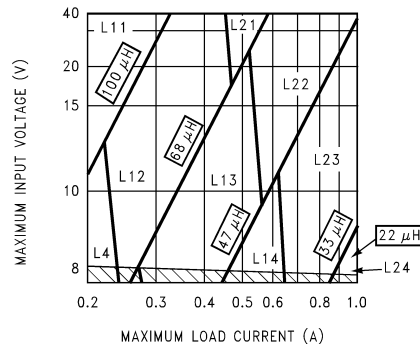
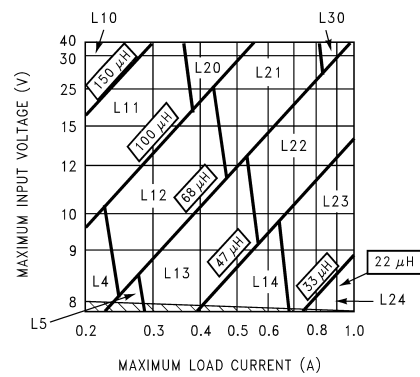
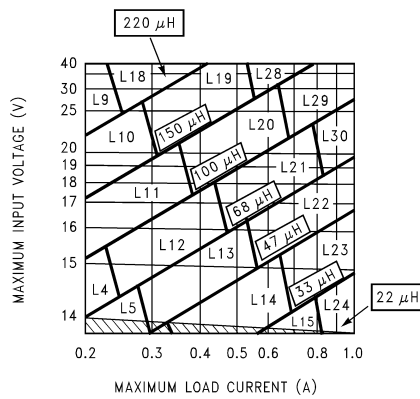

Figure 9. LM2675-3.3EP
Figure 10. LM2675-5.0EP
Figure 11. LM2675-12EP
A. Select the correct inductor value selection guide from Figure 9 , Figure 10 or Figure 11 (output voltages of 3.3V, 5V, or 12V respectively). For all other voltages, see the design procedure for the adjustable version.	A. Use the inductor selection guide for the 5V version shown in Figure 10 .
B. From the inductor value selection guide, identify the inductance region intersected by the Maximum Input Voltage line and the Maximum Load Current line. Each region is identified by an inductance value and an inductor code (LXX).	B. From the inductor value selection guide shown in Figure 10 , the inductance region intersected by the 12V horizontal line and the 1A vertical line is 33 μ H, and the inductor code is L23.